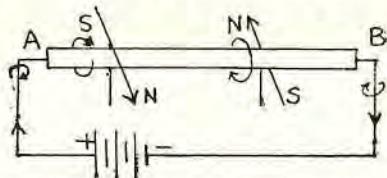
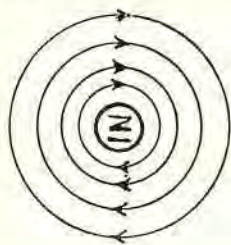

Fig. 6A. Note that the magnetic whirl above the wire is in one direction, and underneath in the opposite direction.
Fig. 6B
Direction of magnetic whirls around a wire: If a compass is placed above the wire (Fig. 6A), when looking at the end A, where the current is going in, the lines-of-force will whirl clockwise as in Fig. 6B, and the (N) end of the compass needle will point with the direction of the flow of the lines-of-force. If the compass is placed below the wire, the (N) end of the compass needle will point in the opposite direction, thus proving that there is a magnetic field circling around the wire.
Fig. 6B. Note that the magnetic whirls are clockwise when the current is going in the front end of the wire, and counter-clockwise when leaving at the rear end (6C) where the current is coming out.